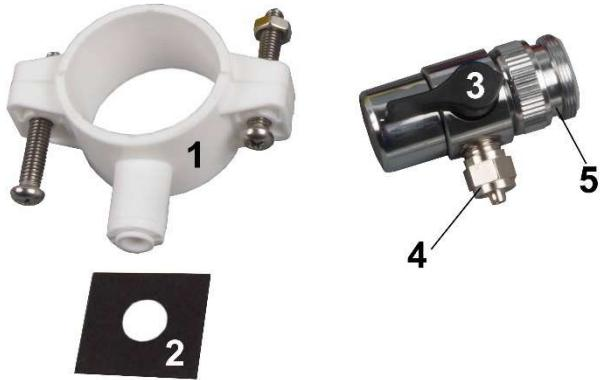

Fig. 2:
1. Connect the tap connection to a suitable tap, if necessary an adapter piece must be inserted [an adapter (Fig. 2, No. 5) is included in delivery]. From the tap connection (Fig. 2, No. 4) you go with a piece of hose to the tap water inlet of the system. With the help of the tap (Fig. 2, No. 3), you can switch between tap water extraction and operation of the osmosis system.
2. Connect the waste water hose (Fig. 1, No. 14). By using the enclosed clamp (Fig. 2, No. 1), the waste water hose can also be connected directly to a suitable waste water pipe. A borehole of approx. 5 mm has to be made in the pipe beforehand. The square sealing (Fig. 2, No. 2) has to be placed between the clamp and the borehole. However, in order to reduce the risk of bacterial recontamination, it is advisable not to connect the waste water hose to the waste water pipe, but rather to let it drip into the drain.